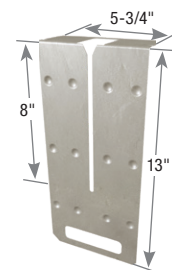

**Figure 1**
- The end of the truss/joist should measure 1-5/8" from the face of the supporting wall. See Figure 1.
- The truss/joist should bear fully on the FWH seat with a gap no greater than 1/8" between the end of the supported member and the hanger. See Figure 1.